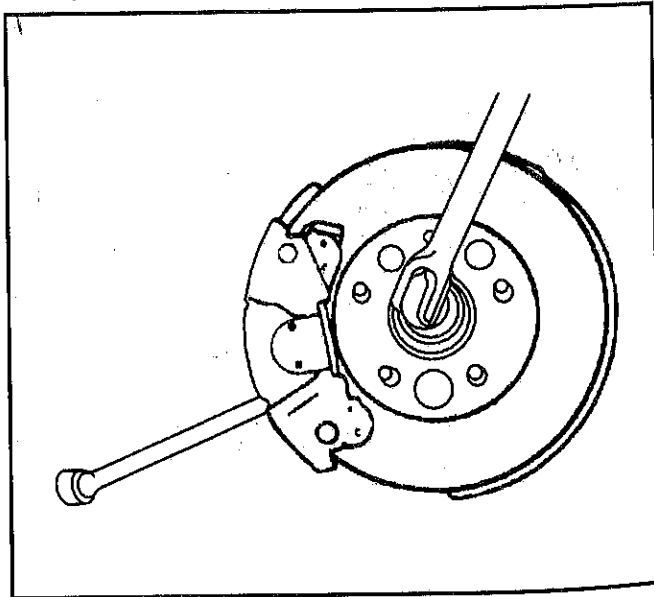

Figure 27—Preventing the Shaft From Turning
- Insert a drift through the brake caliper into one of the brake rotor vanes to prevent the drive axle from turning (Figure 27).